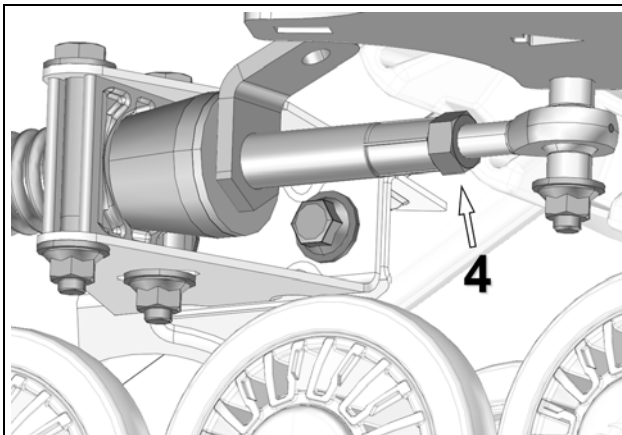

Figure 15
- Re-tighten jam nut (4) to 40 N•m [30 lb•ft] of torque when adjustment is complete. See Figure 15.